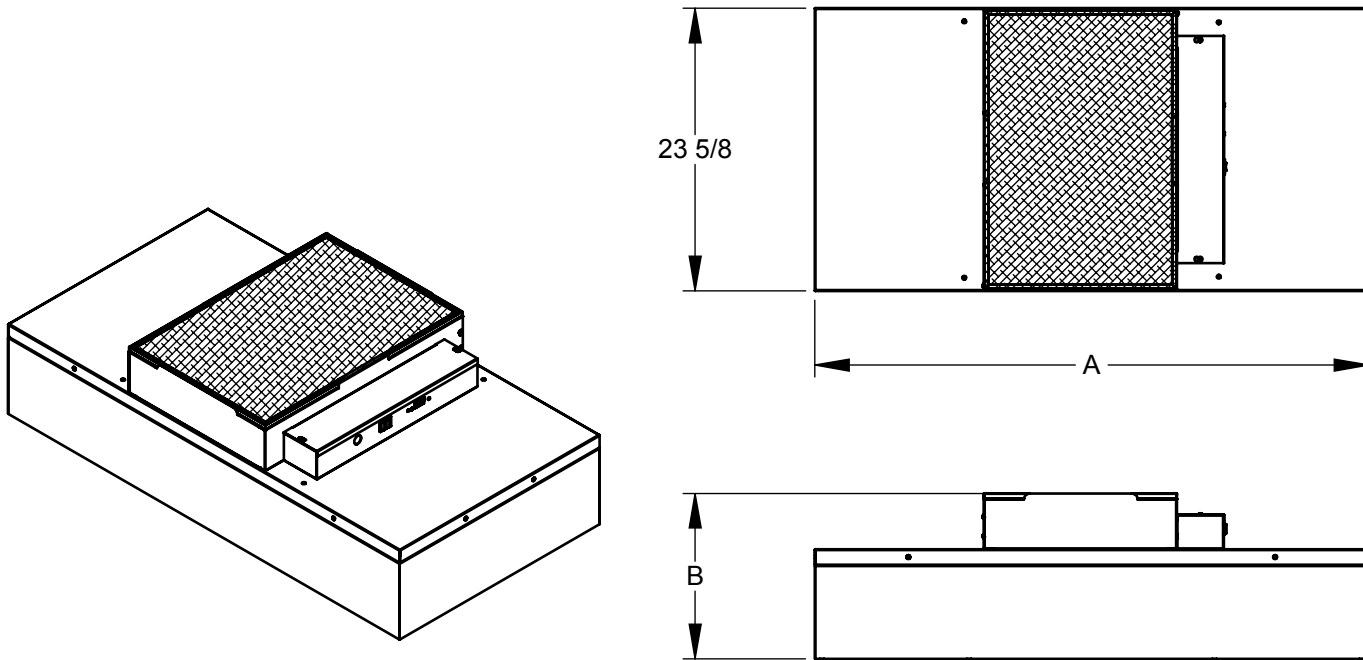

FIGURE 1 - Product Isometric and Dimensional Views
- An electrician should wire the unit to the appropriate voltage (115V, 220V, 227V AC), referencing the wiring diagram in figure 1 and local electric codes. If the optional power cord was ordered, the unit should be plugged into a grounded receptacle.